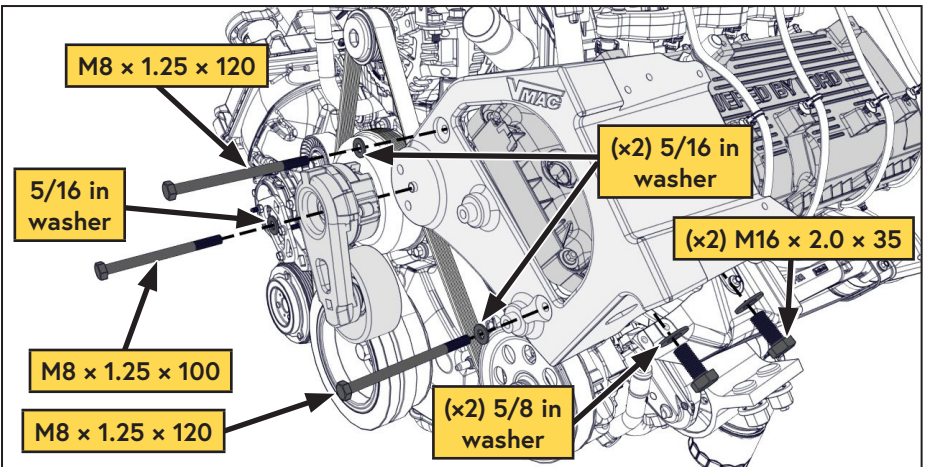

Figure 18 — Install main bracket
- ☐ Torque the (x2) M16 fasteners to specification followed by the (x3) M8 fasteners (Figure 18).